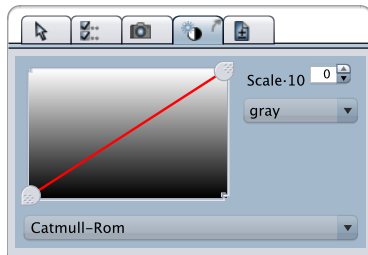

Figure 1.119: Brightness Contrast Tool
- The Lookup Table tool is displayed, (see [Figure 1.119 \[145\]](#)), showing the mapping of image values on the horizontal axis onto gray values on the vertical axis.